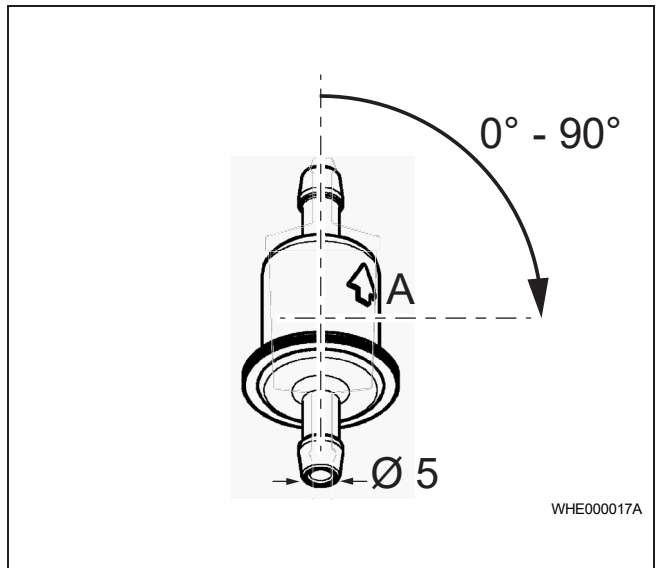

Fig. 14 Permissible installation position of fuel filter
- ▶ Ensure the correct installation position. Pay attention to the direction of flow of the fuel (arrow) in Fig. 14.